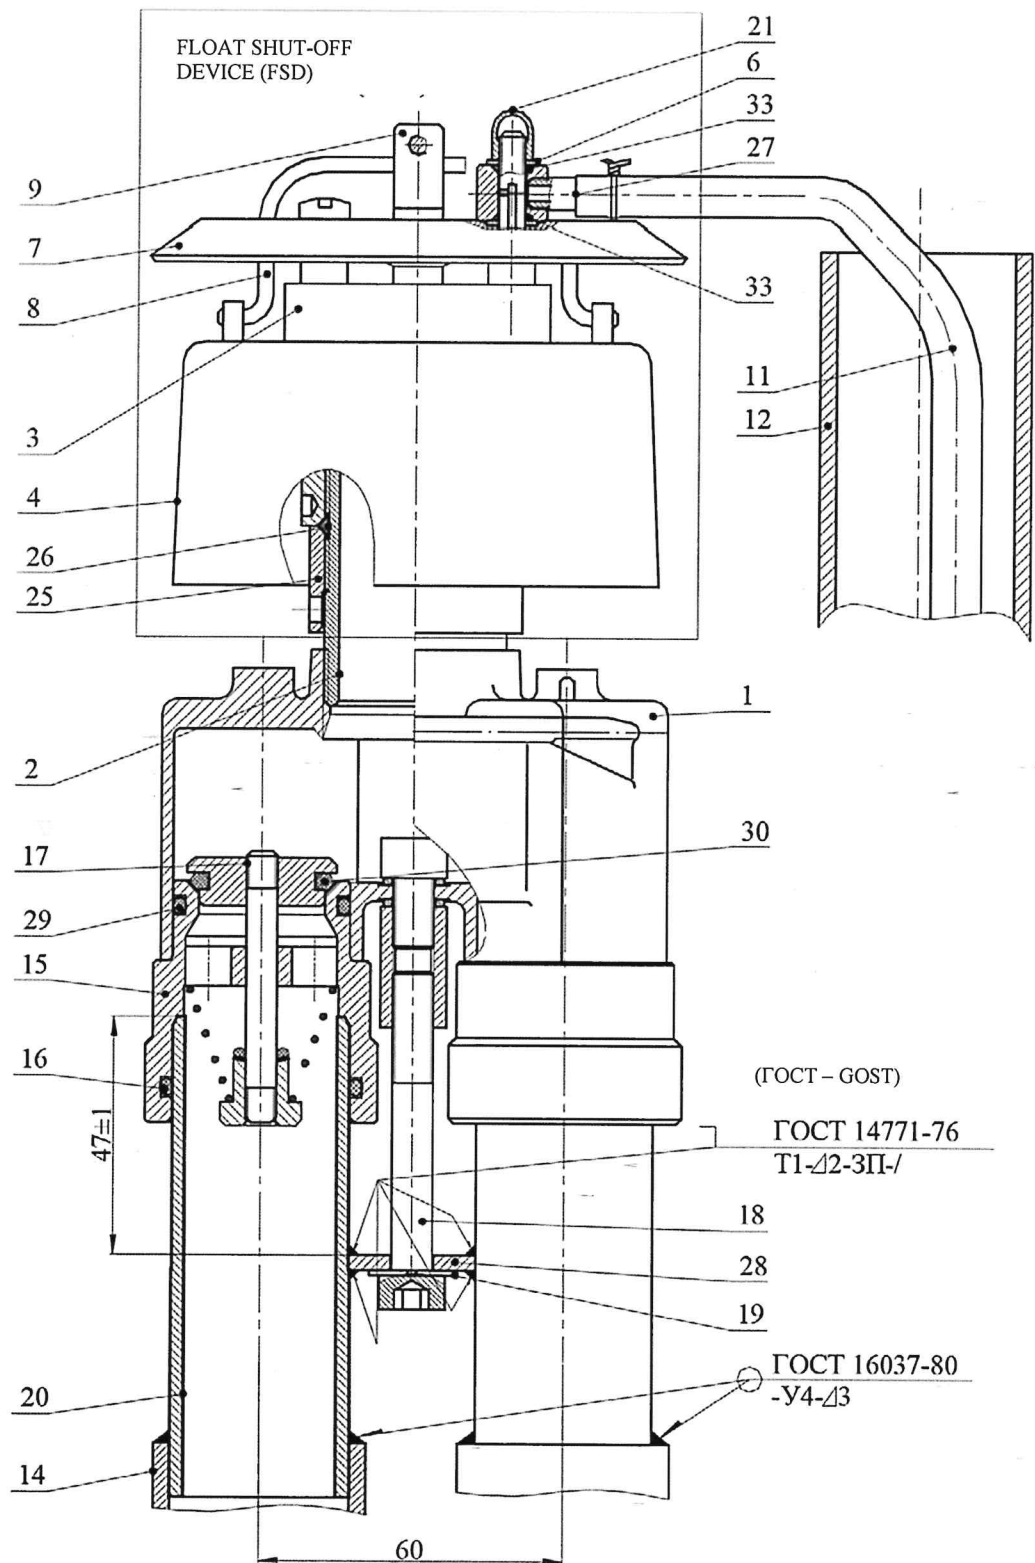
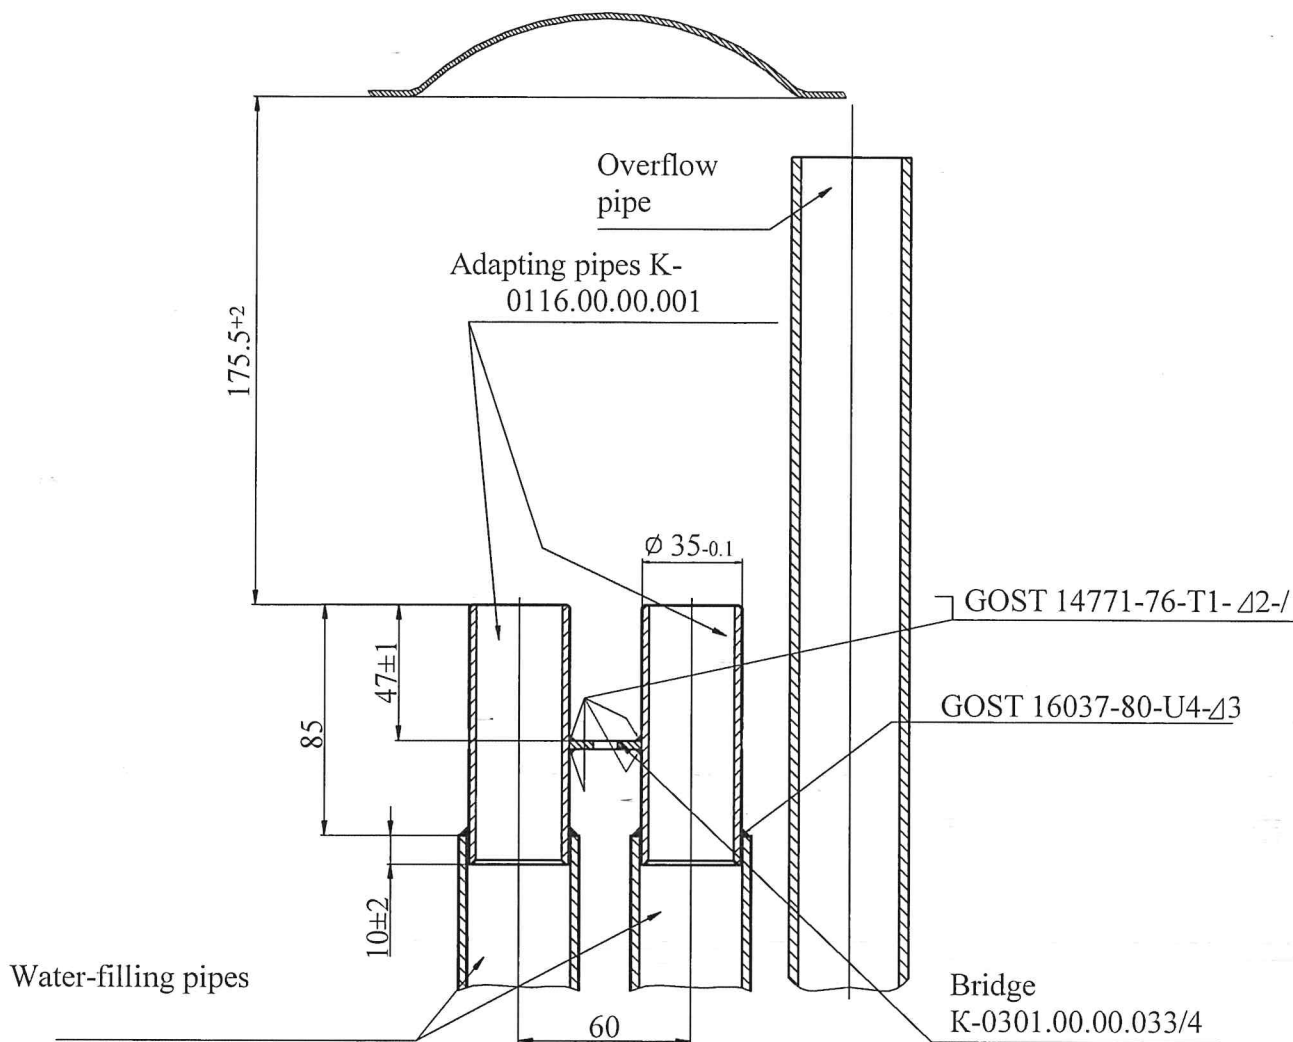

Fig. 1 – Structure and function of the valve.
Fig. 2 - Installation of the valve into the tanks of 61-4514 model cars with a removable distribution collector.
1.3.1. The valve dwg K-0301/5.1.1M (Fig.1) includes a float shut-off device (Tag No. 3) (hereinafter FSD), a T-connector (Tag No. 1), two fittings (Tag No. 15) with spring-loaded check valves (Tag No. 17) and an adapting pipe (Tag No. 2).
- 2.1.1 Weld the bridge (Tag No. 28) dwg K-0301.00.00.033/4 (Fig. 1, Fig.2) at a distance of 47 ± 1 from the ends of the adapting pipes (Tag No. 20) dwg K-0116.00.00.001 controlling the interaxial size of 60 mm, while the upper ends of the adapting pipes (the valve seating point) should be protected from welding at a distance of minimum 25 mm.
- 2.1.2 Weld two adapting pipes (Tag No. 20) (Fig. 1, Fig.2) with a bridge to the water filling pipes, holding the size of 85mm and controlling the interaxial size of 60 mm. At the same time, the upper ends of the adapting pipes (the valve seating point) should be protected from welding at a distance of minimum 25 mm. After welding, clean the surface of the distribution collector and welding seams from splashes and slag. Flush the inner surfaces of the pipes and the surface of the distribution battery.
For all types of OR, remove the valve from the distribution collector in order to replace the following rubber-technical products (RTP), regardless of the condition (Fig. 1):
3.2.1 Removing the valve from the distribution collector (Fig. 1)
3.2.2 Replacing the ring 034-038-25 GOST 9833-73 (Tag No. 26) (Fig. 1)
3.2.3 Replacement of fitting rings (Tag No. 15) (Fig. 1)